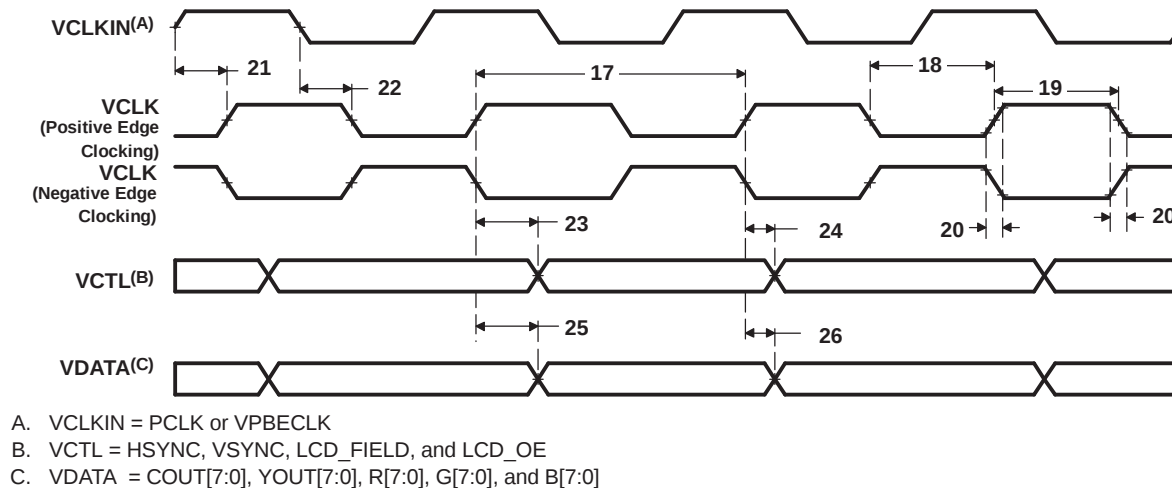

Figure 6-53. VPBE Control and Data Output Timing With Respect to VCLK
Table 6-63. Switching Characteristics Over Recommended Operating Conditions for VPBE Control and Data Output With Respect to VCLK^{(1) (2)} (see Figure 6-53)